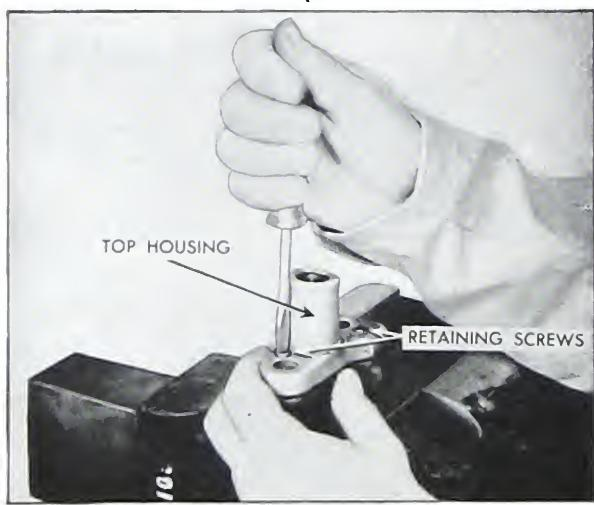

Fig. 6-9. Removing top housing
9. If the injector is standard type, remove the fillister head screws and remove the injector top housing. (Fig. 6-9).